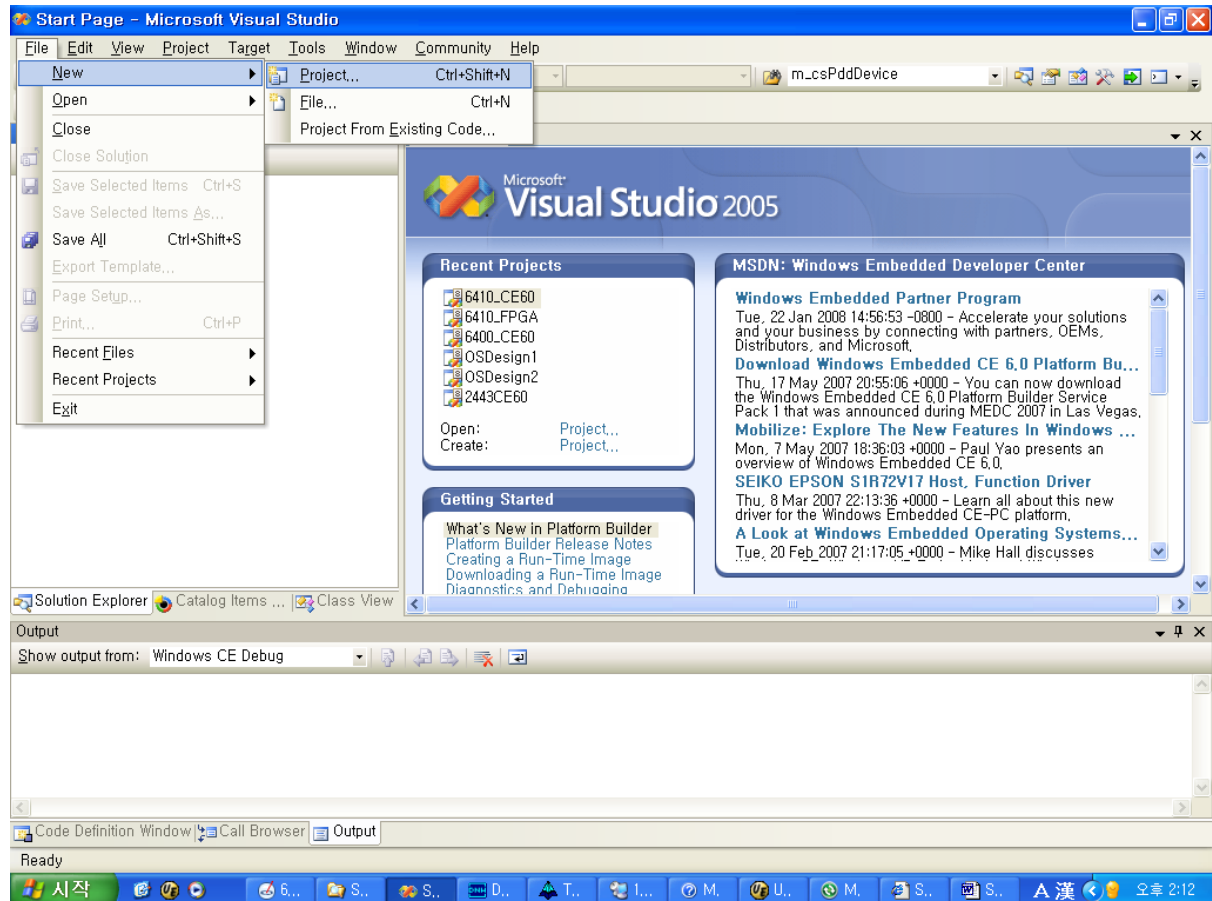

Figure 3-1 Creating New Project
1. On the File menu in the Visual Studio 2005 window, click New /Project as shown in figure 3-1.